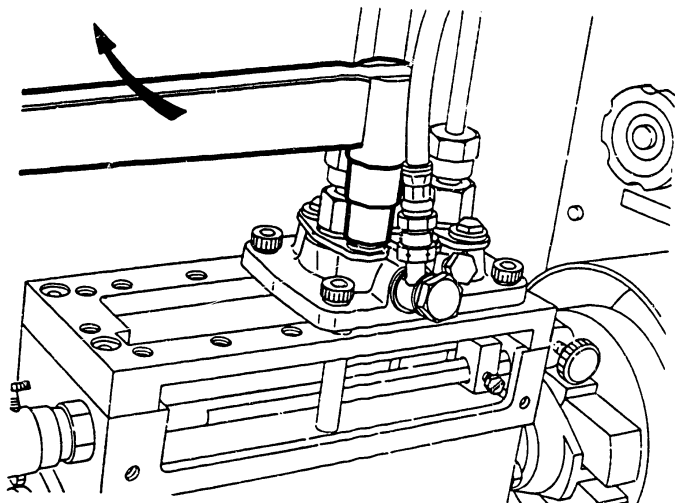

Fig. 70 Retightening the sleeve flange bolts
- 4 Tighten the left and right hand five-sided bolts to the specified torque and remeasure the injection quantity. (Figure 70)